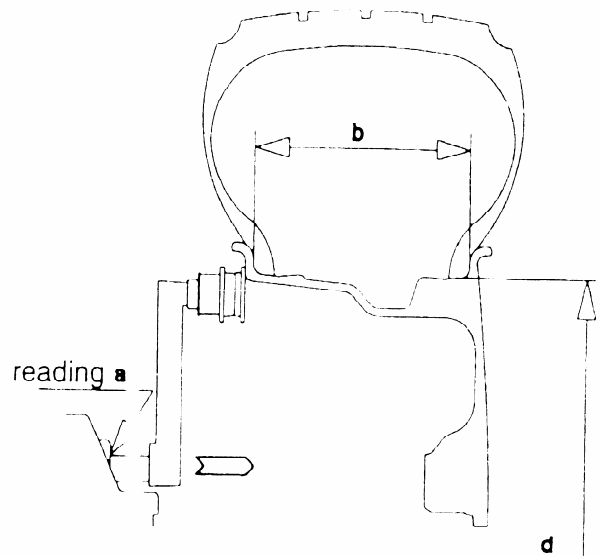

Fig.4
DISTANCE: find out the measure between the machine and the weights application point on the wheel rim and set by means of "a" (Fig.4)
- The ALU functions available can be selected at any time to provide a reading of the correction weights to be applied to different positions from those shown in Figure 4 (normal). Press key **ALU** to select the desired function. For each function, the microprocessor elaborates the real values of the compensating weight corrected on the basis of the position of the correction weight and memorizes them quickly on the unbalance displays.